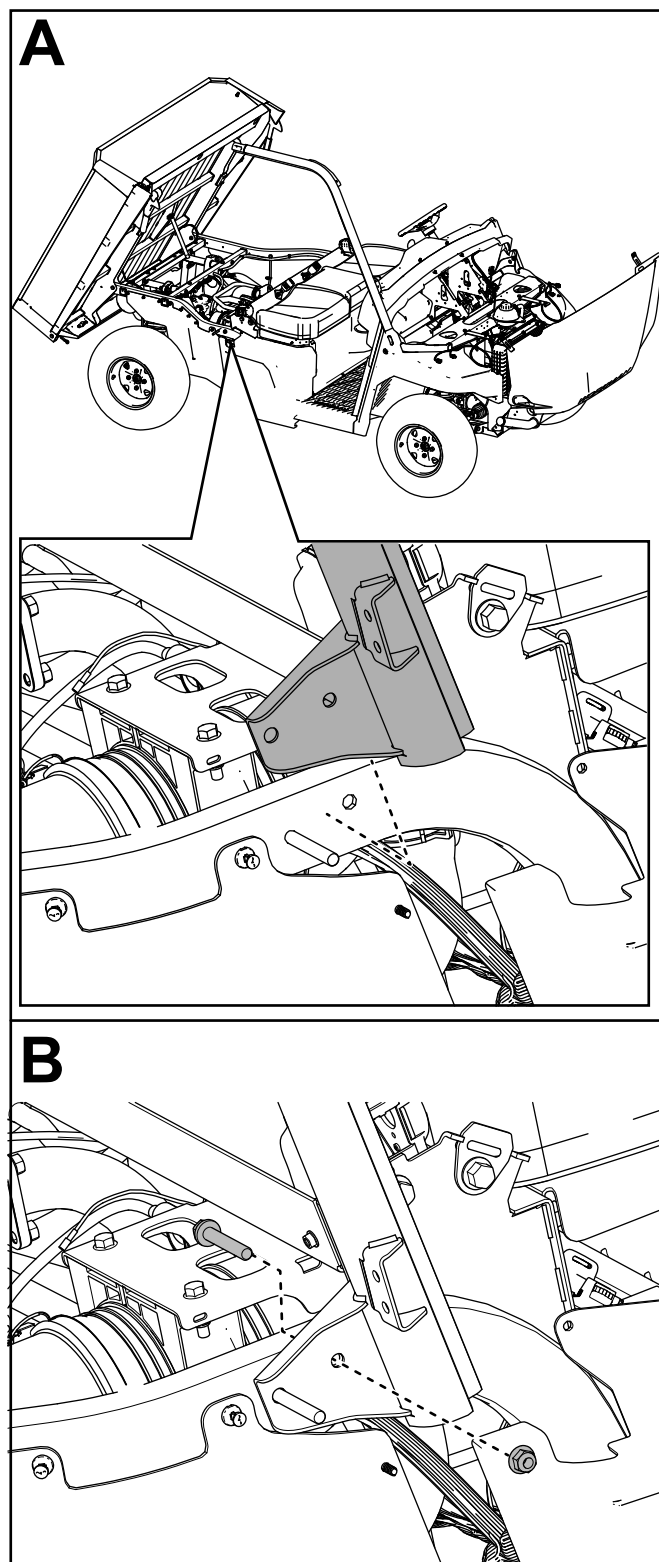

**Figure 11**
4. Remove the locknut (3/8 inch) and latch pin from the right and left, rear frame tubes (Figure 11).